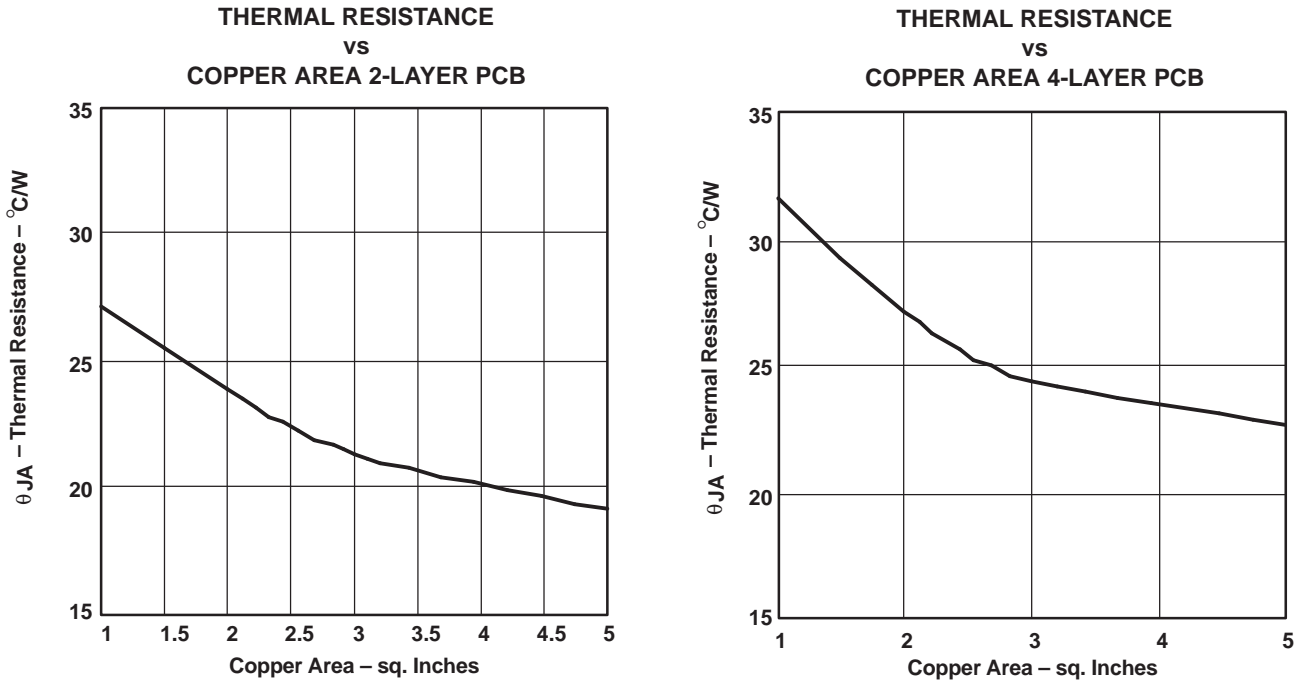
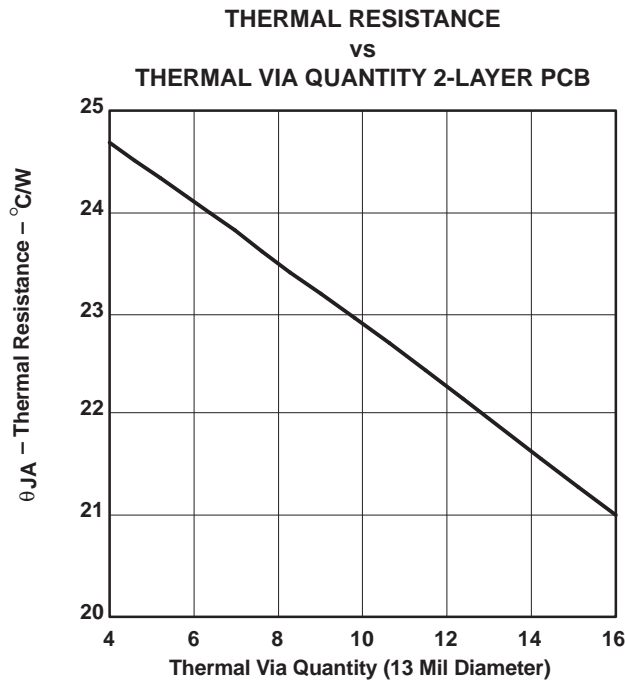

Figure 47. Thermal Resistance
Figure 48. Thermal Resistance
$$\theta_{JA} = 19^\circ\text{C/W} \quad \text{2-Layer PCB, 5 sq. in. copper, see Figure 47.} \quad (8)$$
Figure 47 and Figure 48 show the results of several thermal experiments conducted with the TPA3004D2. Both figures show that the best thermal performance can be achieved with more copper area for heat dissipation and an adequate number of thermal vias.
Figure 47 shows two curves for a 2-layer and 4-layer PCB. The 2-layer PCB layout was tightly controlled with a fixed amount of 2 oz. copper on the bottom layer of the PCB. The amount of copper is shown on the x-axis. Nine thermal vias of 13 mil (0.33mm) diameter were drilled under the PowerPad and connected to the bottom layer. The top layer only consisted of traces for signal routing.
Figure 48 shows the effect of the number of thermal vias drilled under the PowerPad on the thermal performance of the PCB. The experiment was conducted with a 2-layer PCB and 3 square inches of copper on the bottom layer. For the best thermal performance, at least 16 vias in a 4x4 pattern should be used under the PowerPad. Refer to the TPA3004D2 EVM User's Manual, SLOU115, for an example layout with a 4x4 via pattern. PCB gerber files are available at request.